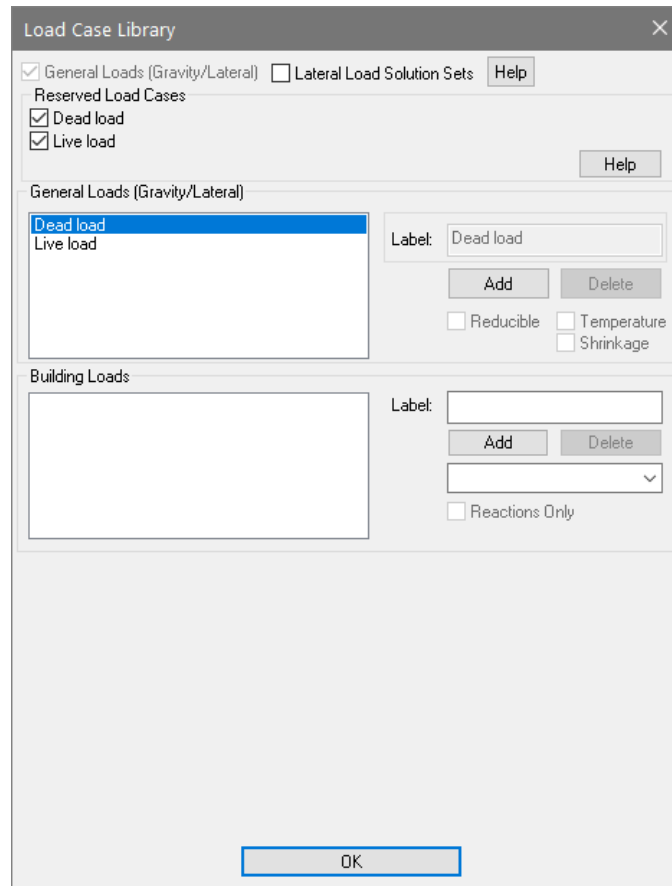

Figure 2-16
- Click on the *Load Cases*  icon. This will open the *Load Case Library* window from **FIGURE 2-16**.
- By default, the program already adds *Dead load* and *Live load* cases as shown in **FIGURE 2-16**. These are default program load cases that cannot be modified.
- Click on the check box next to *Reducible*, to set the load case as one that is reducible so that the user can apply reducible live loads to it if needed. Notice reducible load cases are denoted by (R) being appended to the load case name. Note: Reducible Live Loads are not covered in this tutorial. For more information on Reducible loads please see the *ADAPT-Builder Multi-Level Tutorial*.